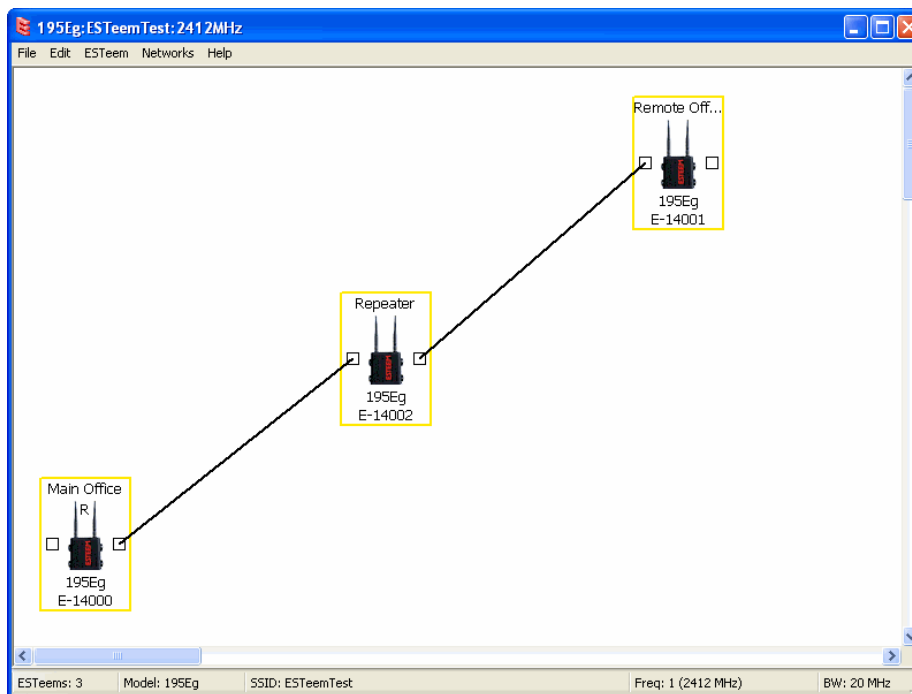

Figure 13: Example 2 Layout
2. Move the ESTeem 195Ea icons on the screen to simulate the layout of the diagram. Draw connection lines between the modems to make the wireless link in the same order as the network layout (Figure 13).